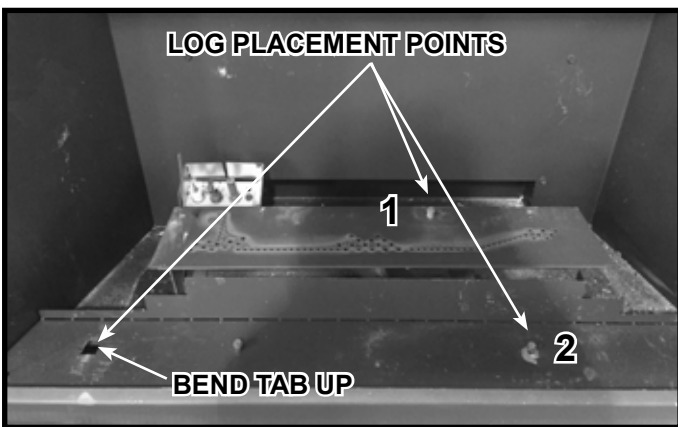
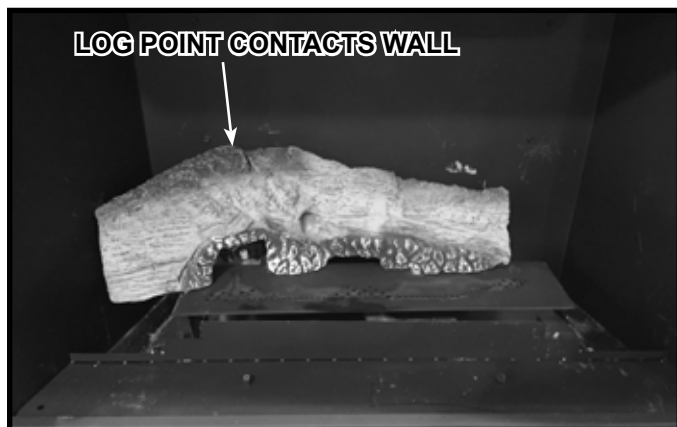
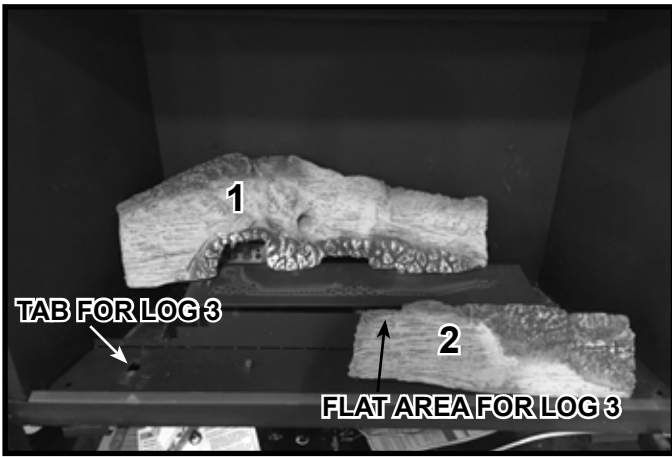
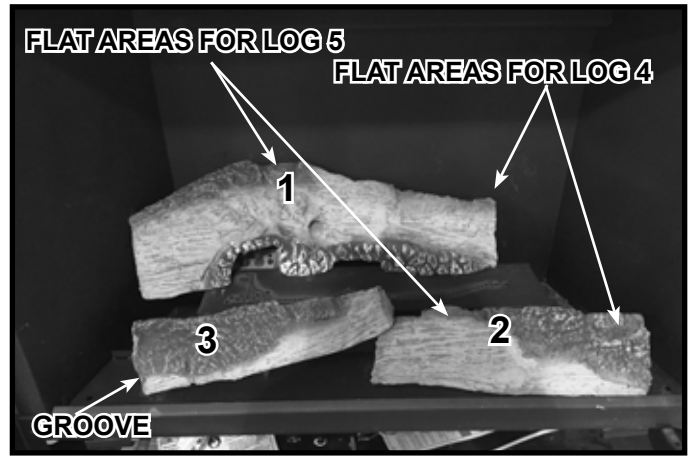

Figure 3.
Figure 4.
Figure 5.
Figure 6.
Figure 3 shows the points used for correct log placement. Bend the tab on the basepan upward to a 90 degree angle as shown. The two shoulder screws will be used in placement of Log 1 and Log 3.
**Log #1 SRV2401-701:** Locate the hole on the bottom right side of Log 1 and the shoulder screw marked “1” in Figure 3. Place the hole onto the shoulder screw as shown in Figure 4. Push the left side of Log 1 back until it contacts the back wall of the firebox.
**Log #2 (SRV2401-702):** Locate the hole on the bottom side of Log 2 and the shoulder screw marked "2" in Figure 3. Place the hole onto the shoulder screw as shown in Figure 5. Push the left side of Log 2 back until it contacts the back of the basepan.
**Log #3 (SRV2401-703):** Locate the groove on the left side of Log 3. Place the log on the tab that was bent up in Step 1 and set the right side of the log on top of the flat area on Log 2. Refer to Figure 5 for tab and flat area. Figure 6 shows Log 3 placed correctly.
**Log #6 (SRV2397-705):** Locate the flat areas on Log 1 and Log 2, highlighted in Figure 6. Place log 6 onto the flat area of Log 2 with the bark facing the front of the appliance. Rest the back of Log 6 onto the flat spot on the far right of Log 1. Log 6 will rest against the back of the appliance.